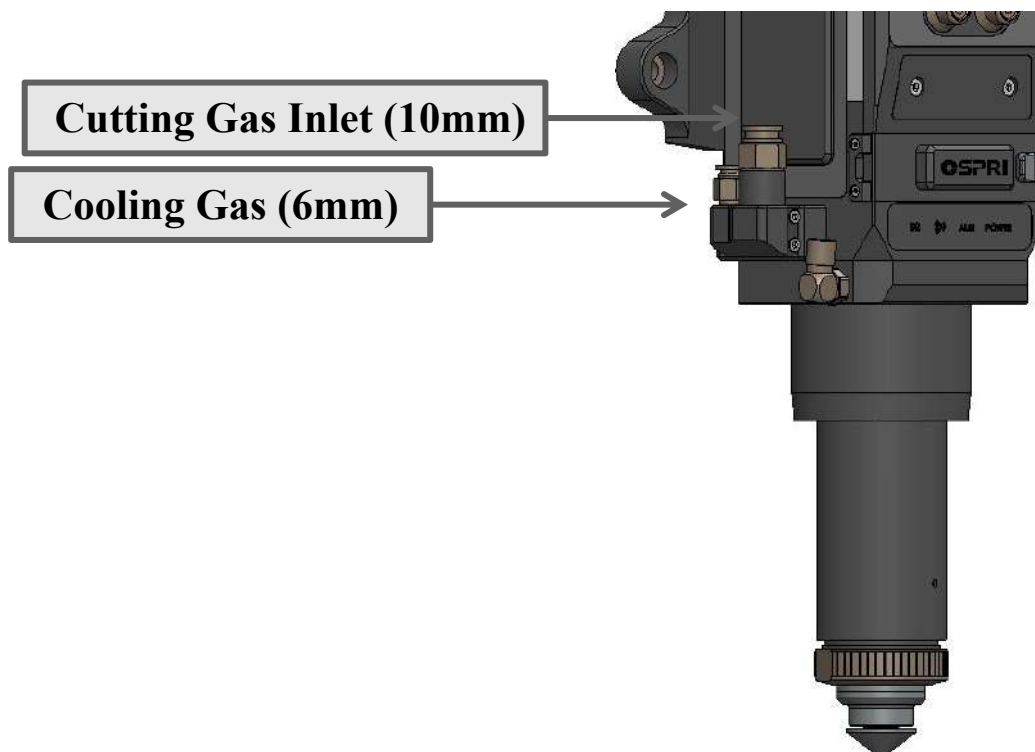

Figure 1.4
- ① The inlet is connected to 10mm gas hose, as shown in the Figure 1.4, and is used to connect cutting gas, with inlet pressure < 3.0 Mpa.
- ② The inlet is connected to a 6mm gas pipe, as shown in Figure 1.4, and is used to connect cooling gas, input pressure < 0.6 Mpa.